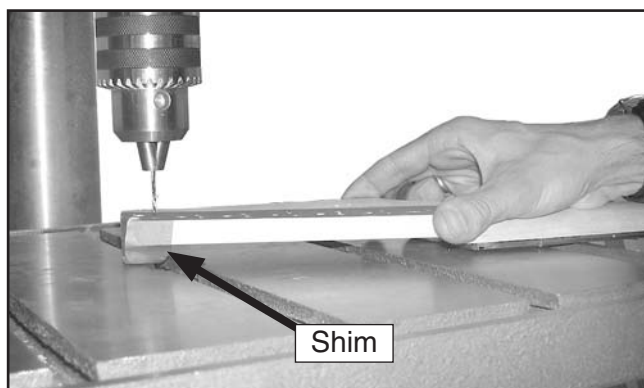

Figure 11. Peghead supported with shim.
5. Fasten a $\frac{7}{16}$ " thick wood shim with tape on the top side of the peghead near the tip (see **Figure 11**). This will help stabilize the neck during the next step.
6. Using a $\frac{1}{16}$ " drill bit, drill $\frac{3}{8}$ " deep holes into the back of the peghead (see **Figure 11**).